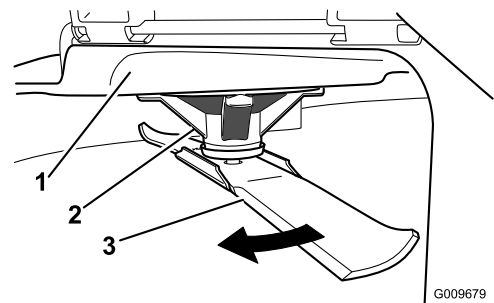

Figure 54
2. While wearing thickly-padded gloves, or other adequate hand protection, slowly rotate the blade to be measure into a position that allows effective measurement of the distance between the cutting edge and the level surface the machine is on (Figure 54).